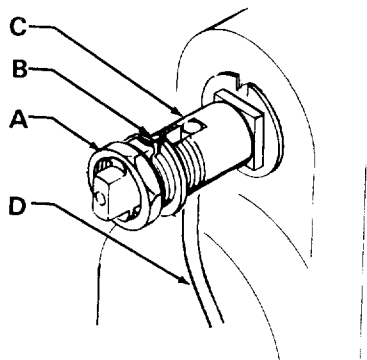

Fig 1
NOTE: Reference numbers and letters in parentheses in the text refer to the Typical Installation, Fig 1, 2, 3, 4 and Parts Drawing.
Whenever you are pumping flammable materials, connect a ground wire to pump air motor. Loosen grounding lug locknut (A) and washer (B). Insert one end of a 12 ga (1.5 mm²) minimum ground wire (D) into slot in lug (C) and tighten locknut securely. See Fig 1.